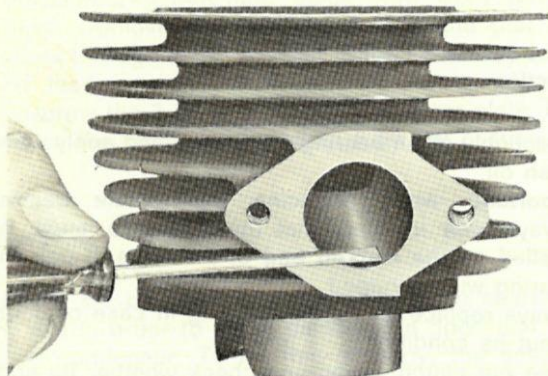

fig. 11
- protect cylinder bore with a rag by decarbonising the cylinder-exhaust port as shown in fig. 11. Remove possible burrs with a piece of fine emery cloth, soaked in paraffin or oil